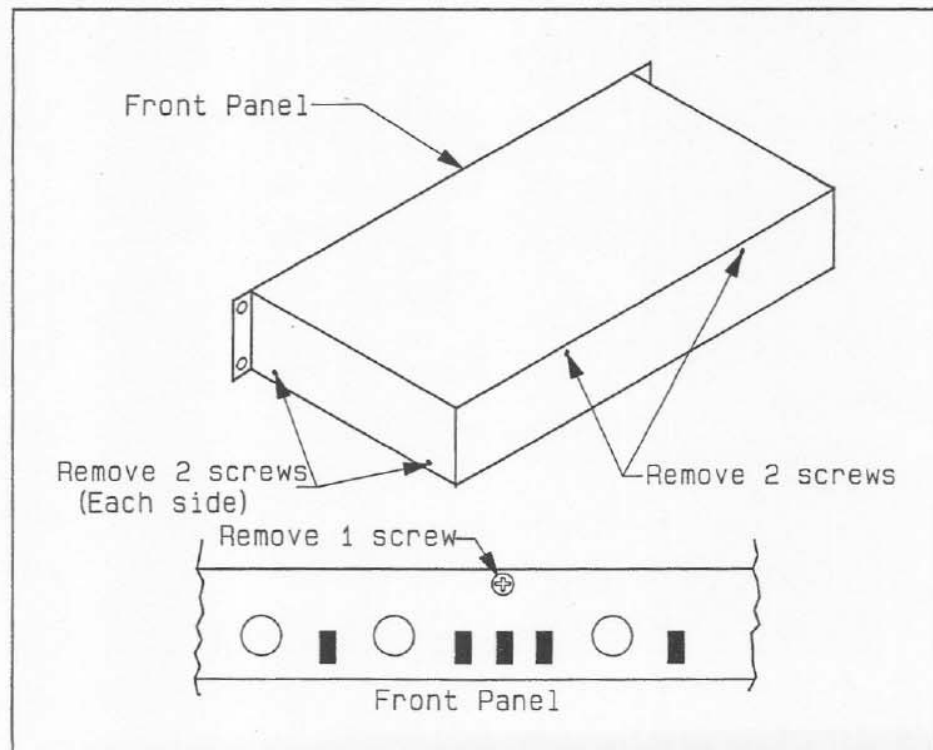

Figure 5. Top cover removal.
2. Remove and save the seven screws securing the top cover. There are two screws on each side, two screws on the rear, and one screw inset into the front panel. Refer to Figure 5 for exact screw locations.
panel. Refer to Figure 5 for exact screw locations.